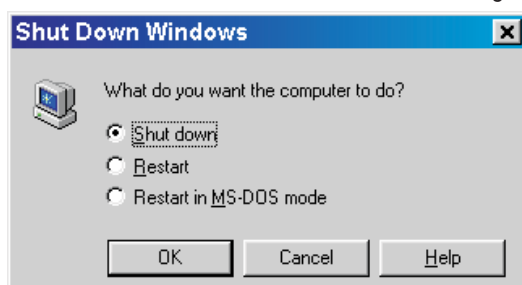

Fig. 3 (Win 98)
Step 2 : The menu of " Shut Down Windows " is as shown in Fig. 3